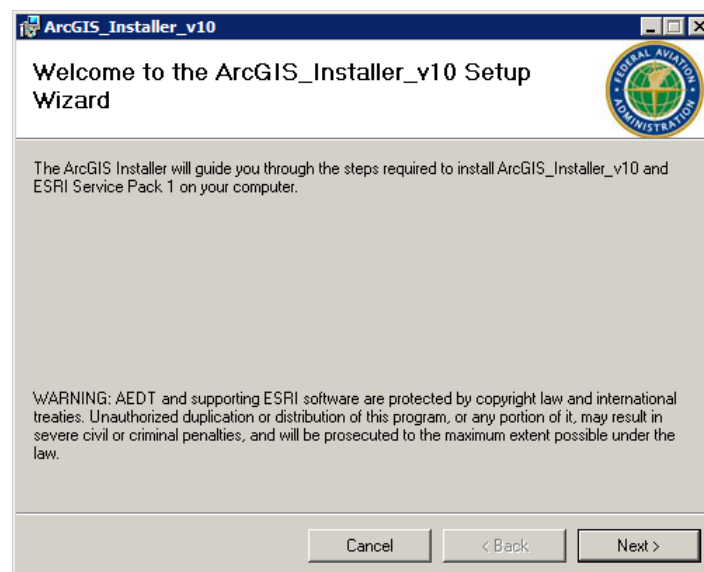

Figure 2-11 ArcGIS Setup Wizard – Welcome
3. The ArcGIS Setup Wizard will open (Figure 2-11). Click *Next*.